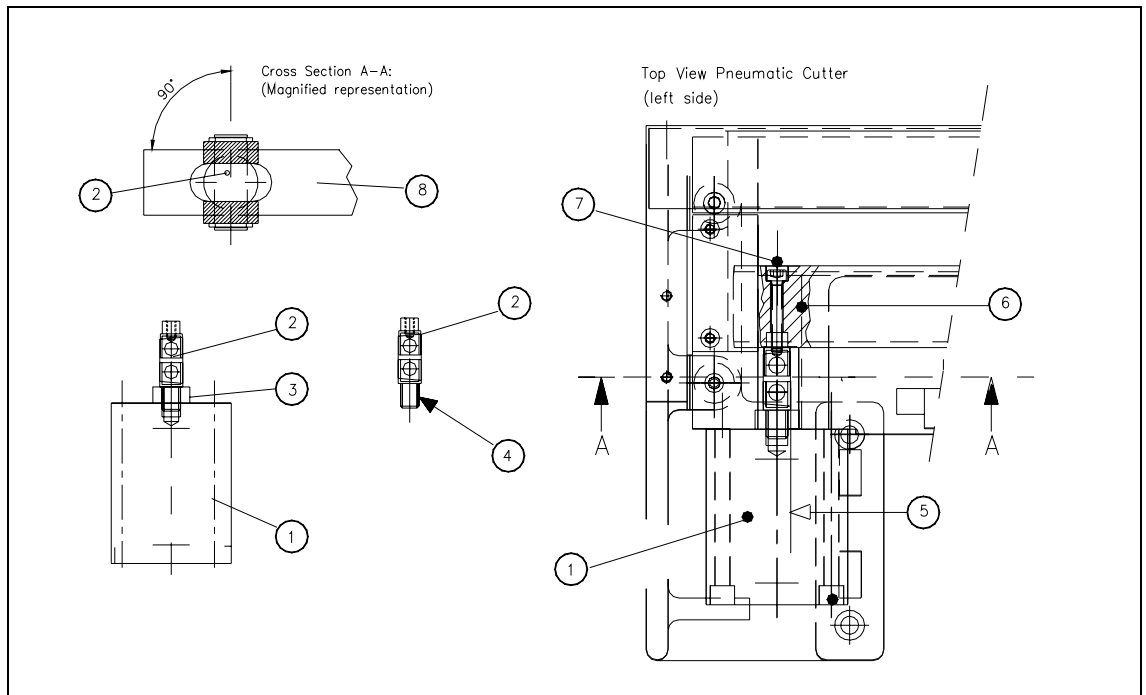

Fig. 5.6.4 Removing Articulated Joint, Installing It on New Master Cylinder and Bonding It in Place
- Dismantle articulated joint from the cylinder by turning the open-end wrench (width across flats 10) on the surface indicated in Fig. 5.6.4 -> 3).
3. Screws fastening the articulated joint (see also Fig. 5.6.4)
Key to Fig. 5.6.4 (right):
- Turn the articulated joint into the mounting position (see Fig. 5.6.4, diagram on the left). Once the cylinder is installed, the slot in the moveable blade prevents the articulated joint from turning.